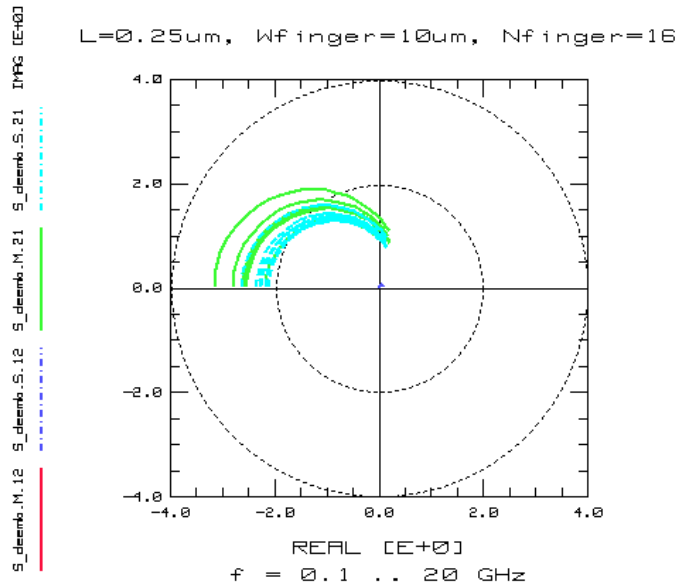
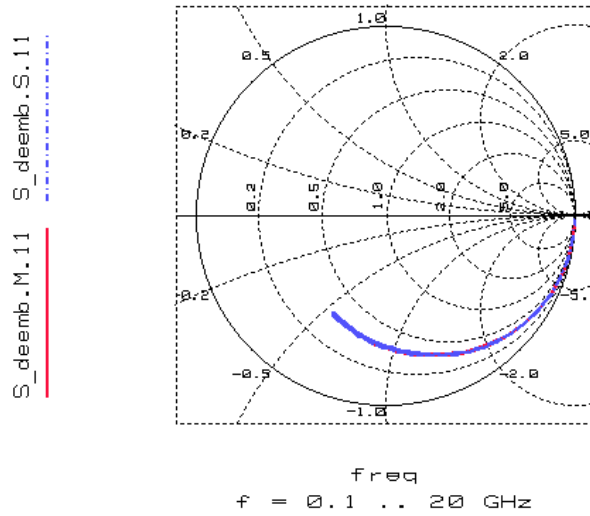

Figure 120 Influence of Incorrectly Modeled Output Characteristic on S21
Figure 121 Input Reflection Parameter S11
- The modeling of the output characteristic $I_d=f(V_{ds})$ and the output resistance $R_{out}=f(V_{ds})$ is very important for further S-parameter measurements (see Figure 121 and Figure 120).